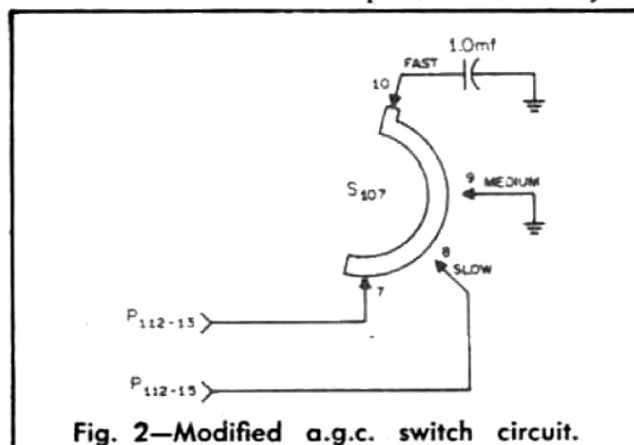

Fig. 2—Modified a.g.c. switch circuit.
31. From the unused terminal 10 of the a.g.c. switch S_{107} (FAST position) connect the 1.0 mf capacitor to ground. See fig. 2. This may be done most conveniently by soldering one capacitor lead directly to the switch lug behind the front panel, and connecting the other lead to a ground lug placed under the r.f. section top cover screw just